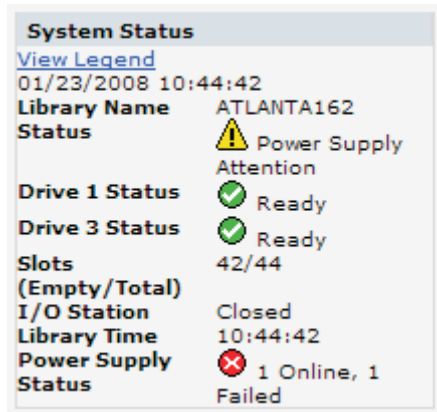

Figure 13. 4U library System status screen that is showing a power supply failure
- The Power Supply status displays if redundant power is being used with a 4U library, and the library was manufactured after March 14, 2008. If a redundant power supply fails, the System status screen displays as shown in Figure 13.